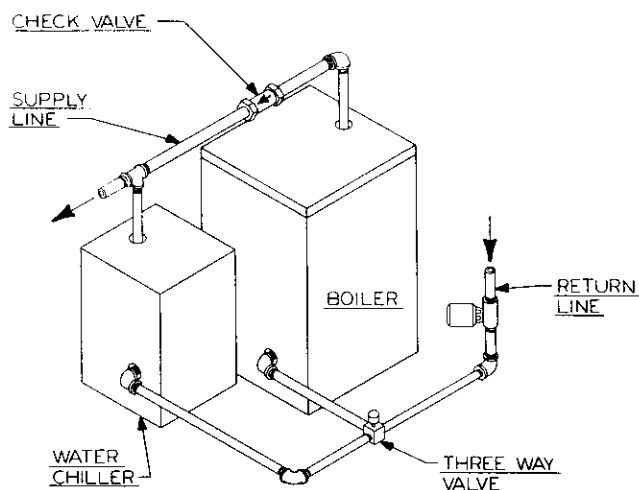

Figure 6: Parallel Hook-up with Water Chiller
7. If this boiler and distribution system is used in conjunction with a refrigeration system, pipe the chilled medium in parallel with the boiler and install the proper valve to prevent the chilled medium from entering the boiler. A drawing illustrating this hook-up is provided in Figure 6.